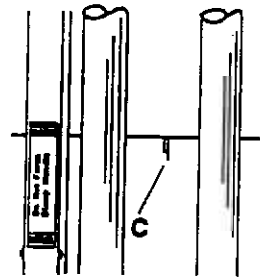

Figure 24
5. If the machine is square, the two cuts at the top of the board, (one made from the front and one from the back) will be in alignment. If not, (C) Figure 24, the **SQUARING EDGE BARS** must be repositioned. If the second cut at the top is to the left of the cut made from the front, the **LEFT SQUARING EDGE BAR** must be lowered. Conversely, if the second top cut is to the right of the first, the **LEFT SQUARING EDGE BAR** must be raised. In either case, the amount of squaring adjustment required is half the distance between the two top cuts.